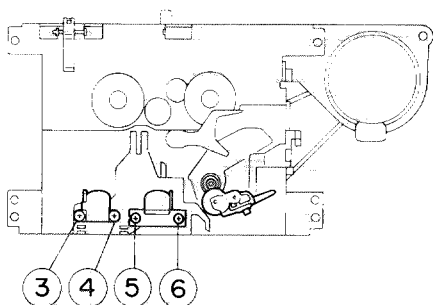
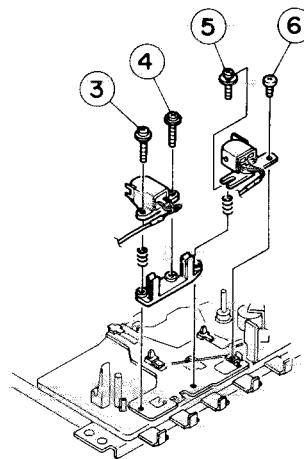

Fig. 2-25
Fig. 2-26
■ Record/Playback head & Erase head (Fig. 2-25, Fig. 2-26)
1. Remove two screws ⑤ and ⑥ retaining the Record/Playback head of mechanism A.
2. Remove two screws ⑦ and ⑧ retaining the Playback head of mechanism B.
3. Remove two screws ③ and ④ retaining the erase head.